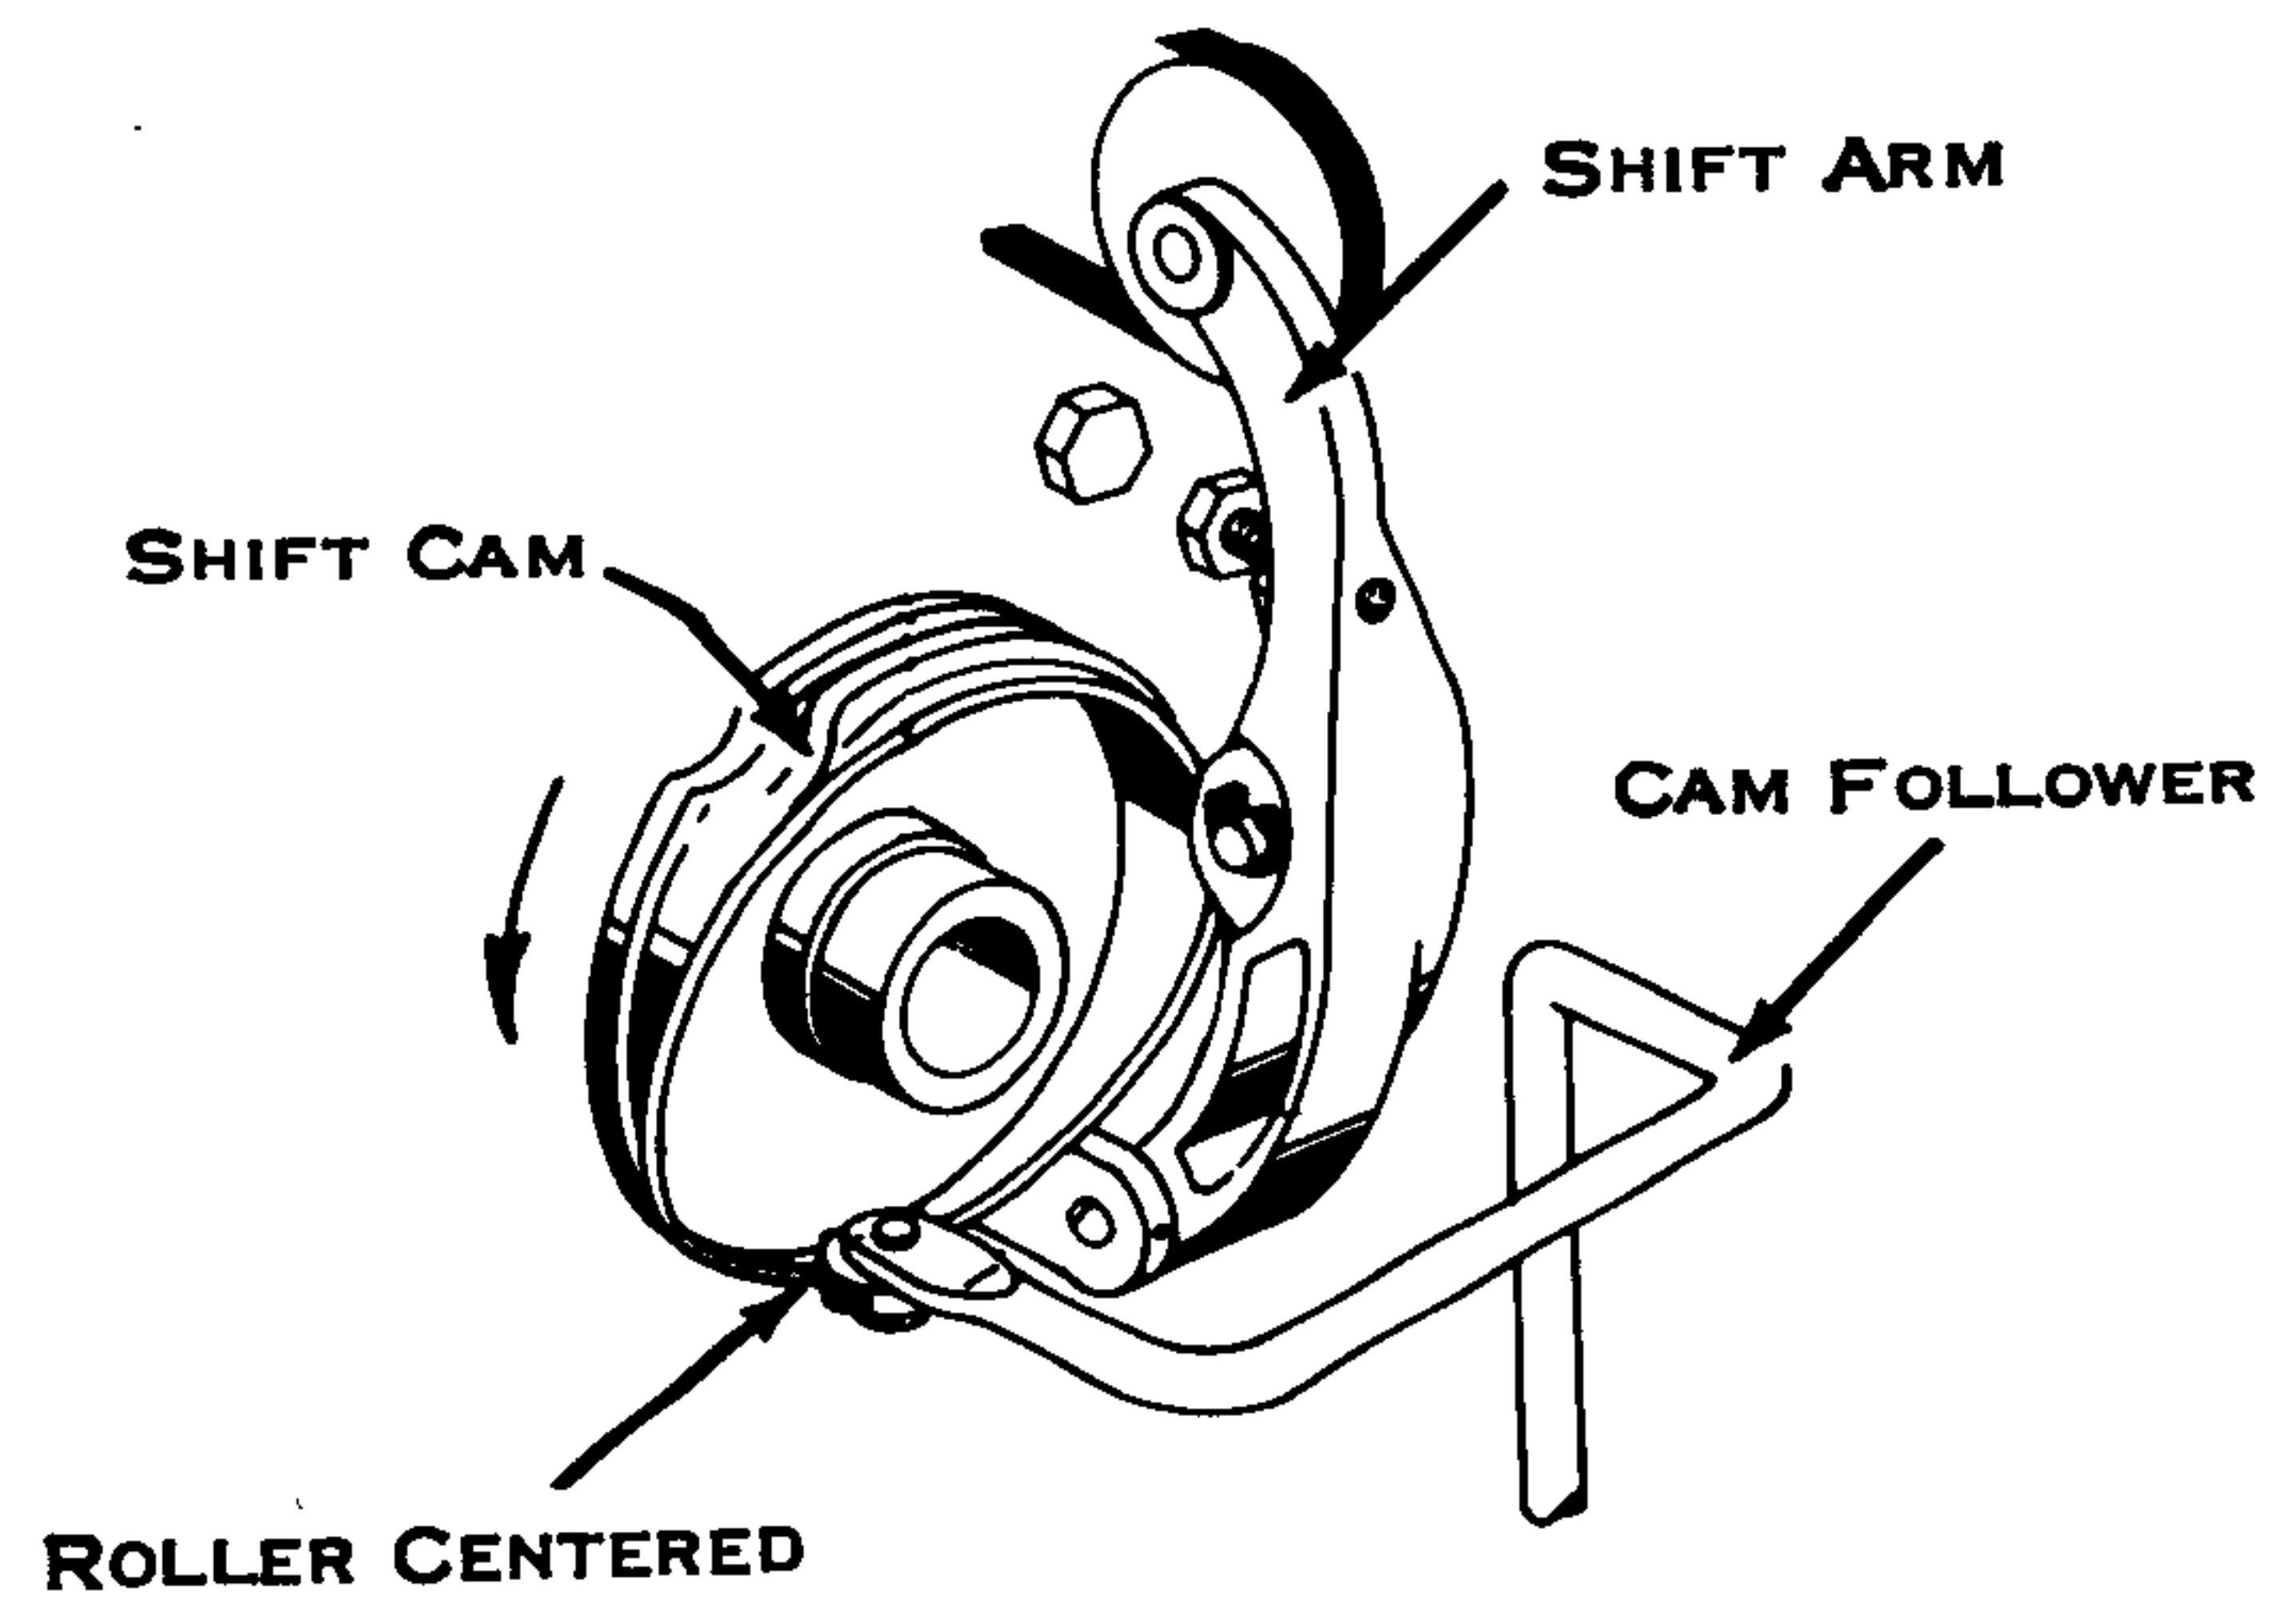

Figure 101. Contact Mounting Plate
1. Contact Mounting Plate (Fig. 101) - Position vertically so that the cam follower roller is centered on the shift cam surface.